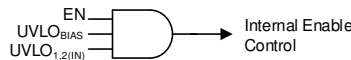

Figure 28. Simplified Turnon Control
Controlling when a single power supply turns on can be difficult in a power distribution network (PDN) because of the high power levels inherent in a PDN, and the variations between all of the supplies. As shown in Figure 28 and Table 2, the LDO turnon and turnoff time is set by the enable circuit (EN) and undervoltage lockout circuits ($UVLO_{1,2(IN)}$ and $UVLO_{BIAS}$).